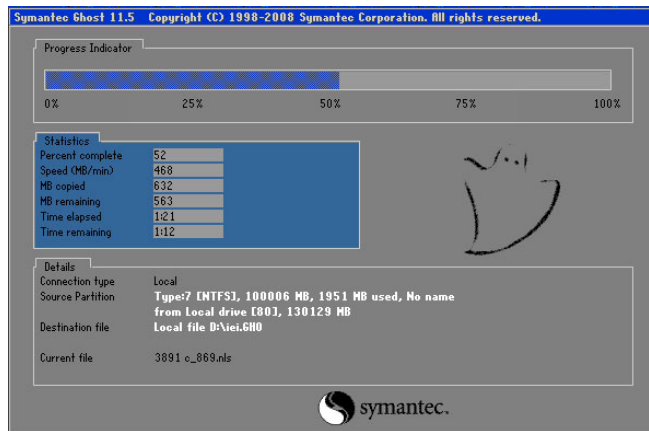

Figure A-16: Image Creation Complete
Step 10: The Symantec Ghost starts to create the factory default image (Figure A-16).